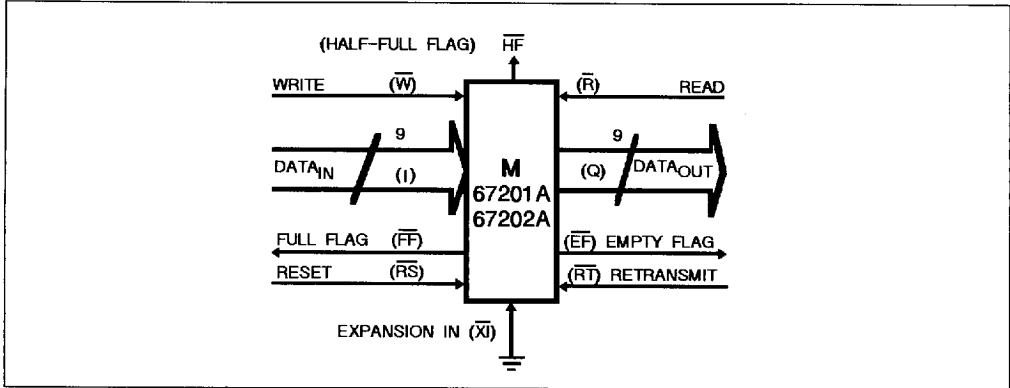

Figure 2 : Block Diagram of Single 512 x 9 and 1024 x 9.
Configuration when the Expansion In ($\overline{XI}$) control input is grounded (see Figure 2). In this mode the Half-Full Flag (HF), which is an active low output, is shared with Expansion Out (XO).